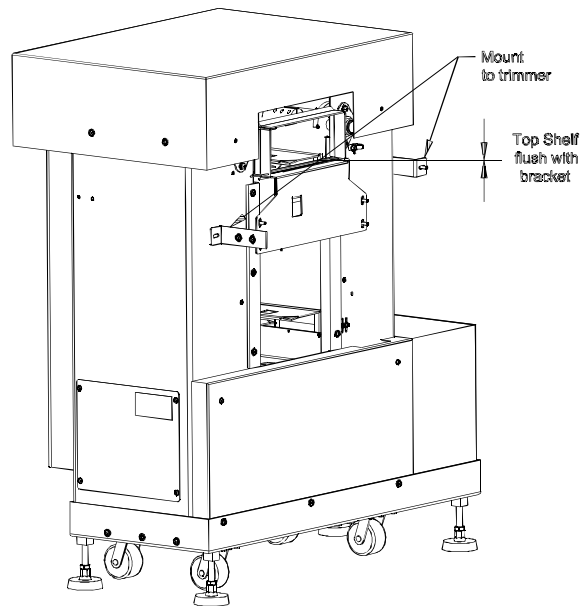

Figure 2-8. Elevator Mounting
1. The top shelf should be 36" (914 mm) from the floor as shown in Figure 2-8. Adjust the leveling pads as necessary.
3. Move the trimmer next to the elevator such that the slots in the elevator mounting brackets (Figure 2-8) line up with the holes on the left side of the trimmer's sheet metal enclosure.
9. Fasten the elevator mounting brackets to the left side of the trimmer, Figure 2-8.